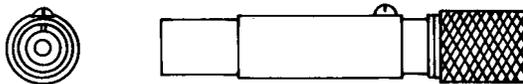

Fig. 10—479A or B Jack
2.05 479A and B: These coaxial-type jacks (Fig. 10) are used with the 337-type plugs. These jacks are used, in connection with emergency restoration of service, for making temporary patches in coaxial units in the field. The test voltage for these jacks is 2000 volts ac.